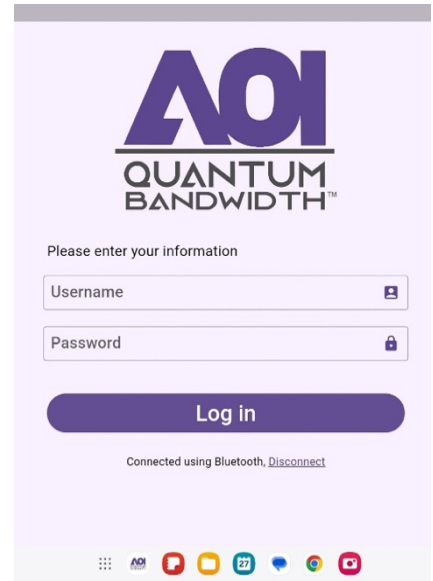

Figure A- 6: Login
- Log into the QuantumLink Local Mobile Application, using an accepted username and password, see Figure A-6.